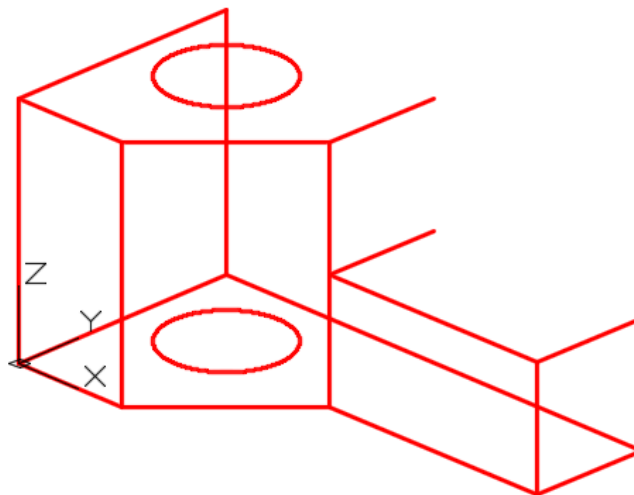

Figure Step 12
Step 12 Using the COPY command, copy the short line located at the right end of the model two times. Ensure that you use snap mode to locate the lines exactly. (Figure Step 12)